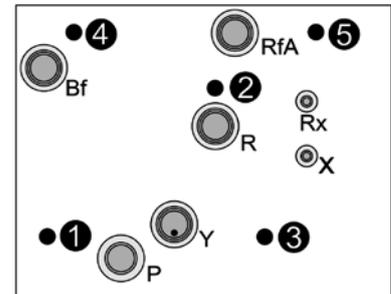

Fig. 9: Flange with five tie rods
Tightening order ① → ② → ③ (→ ④ → ⑤) with five tie rods, see Fig. 9).